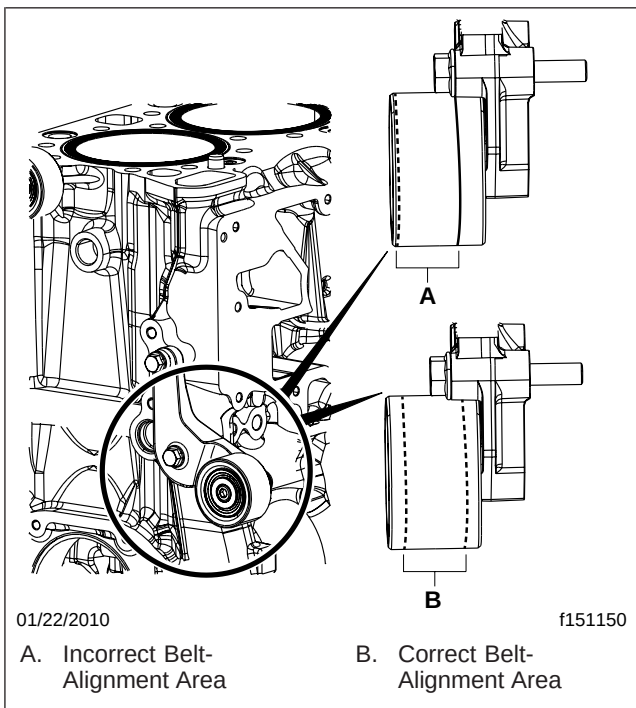

Fig. 3, Idler-Pulley Belt Alignment
5. Check the belt alignment on all idler pulleys. If the alignment is incorrect as shown in Fig. 3, and pulley wear is visible, replace the pulley and bracket.